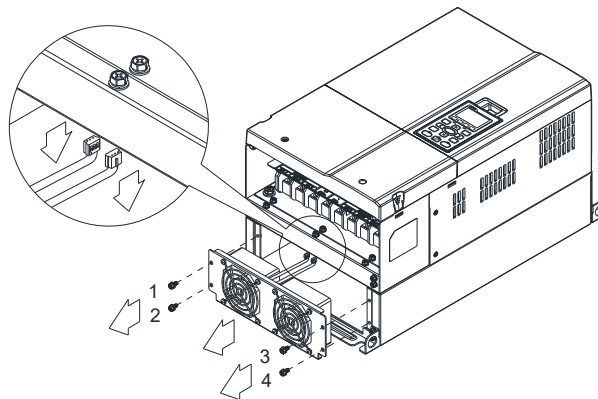

Figure 1
- (As shown Figure 1) Before pulling out the fan, make sure the fan power is disconnected.